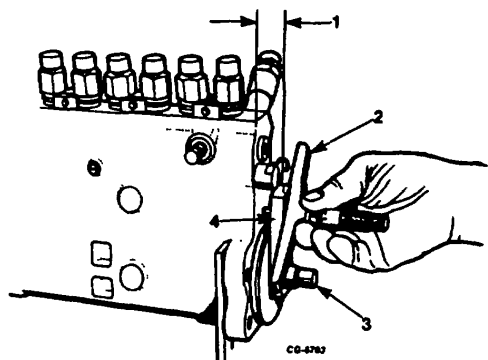

Figure 6. Checking Camshaft Protrusion
17. To check *camshaft protrusion* or space between drive coupling and main body (Figure 6), use SE-2342 protrusion gauge and depth micrometer. Place gauge over front end of camshaft and using micrometer, measure distance from surface of tool to machined surface of pump housing. Distance should be 20.7 -22.2 mm (.817" -.877"). Change camshaft protrusion by adding shims under bearing at governor end of camshaft to increase protrusion or removing shims to decrease protrusion. Maintain same thickness of shims at each end to hold correct end play.